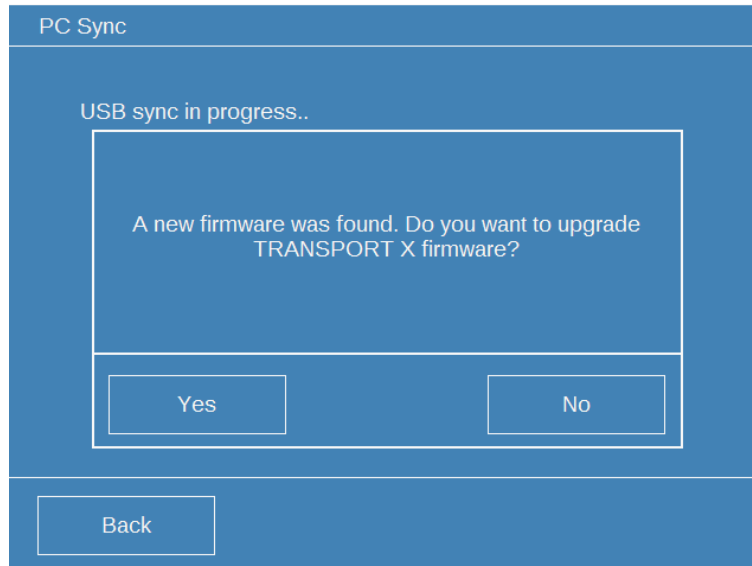

Figure 11-4: Firmware Upgrade - start
1. Insert the USB pen drive into the Type A USB port and press **PC SYNC** on the Main Menu. If the USB pen drive is recognised, a message displays as shown in Figure 11-4.